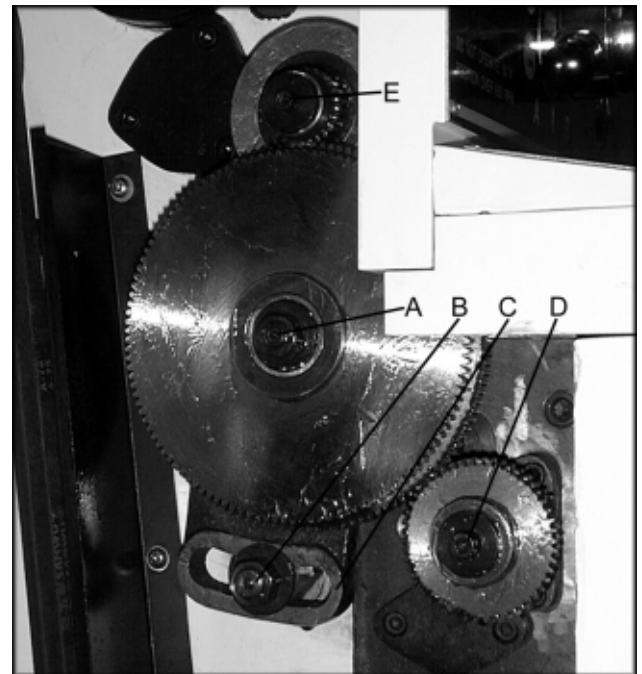

Fig. 18
3. Loosen nuts (A & B, Fig. 18).
4. Move quadrant (C, Fig. 18) out of the way and hold in place temporarily by tightening nut (A & B, Fig. 18).
5. Remove hex socket cap screws (D and/or E, Fig. 18), depending on which gear is to be changed.
7. Loosen nut (B, Fig. 18), move quadrant back so teeth mesh on gears, and tighten nuts (A & B, Fig. 18).